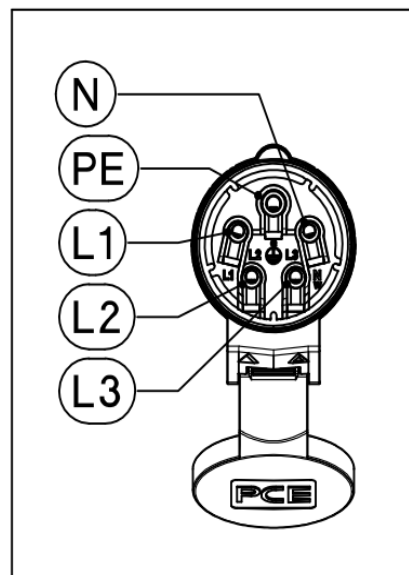

Fig. 4
- Connect the 3 phases to the terminals marked L1, L2, L3 (Fig. 4) for a 3-phase motor. (RED BLOCK)